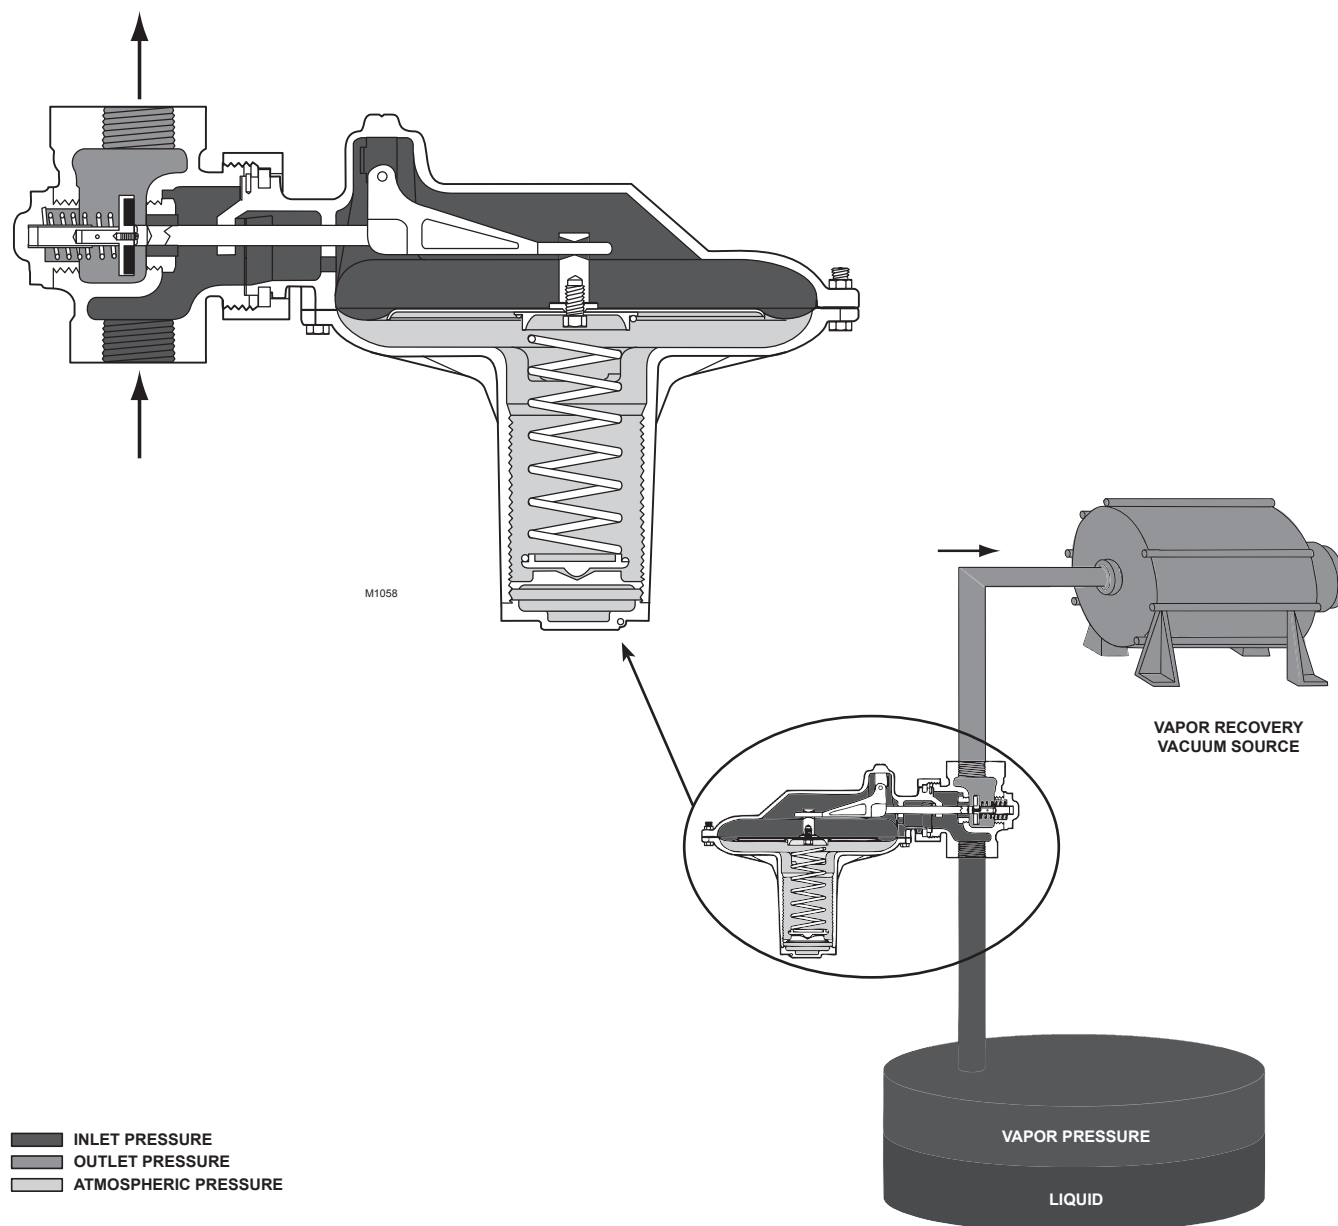
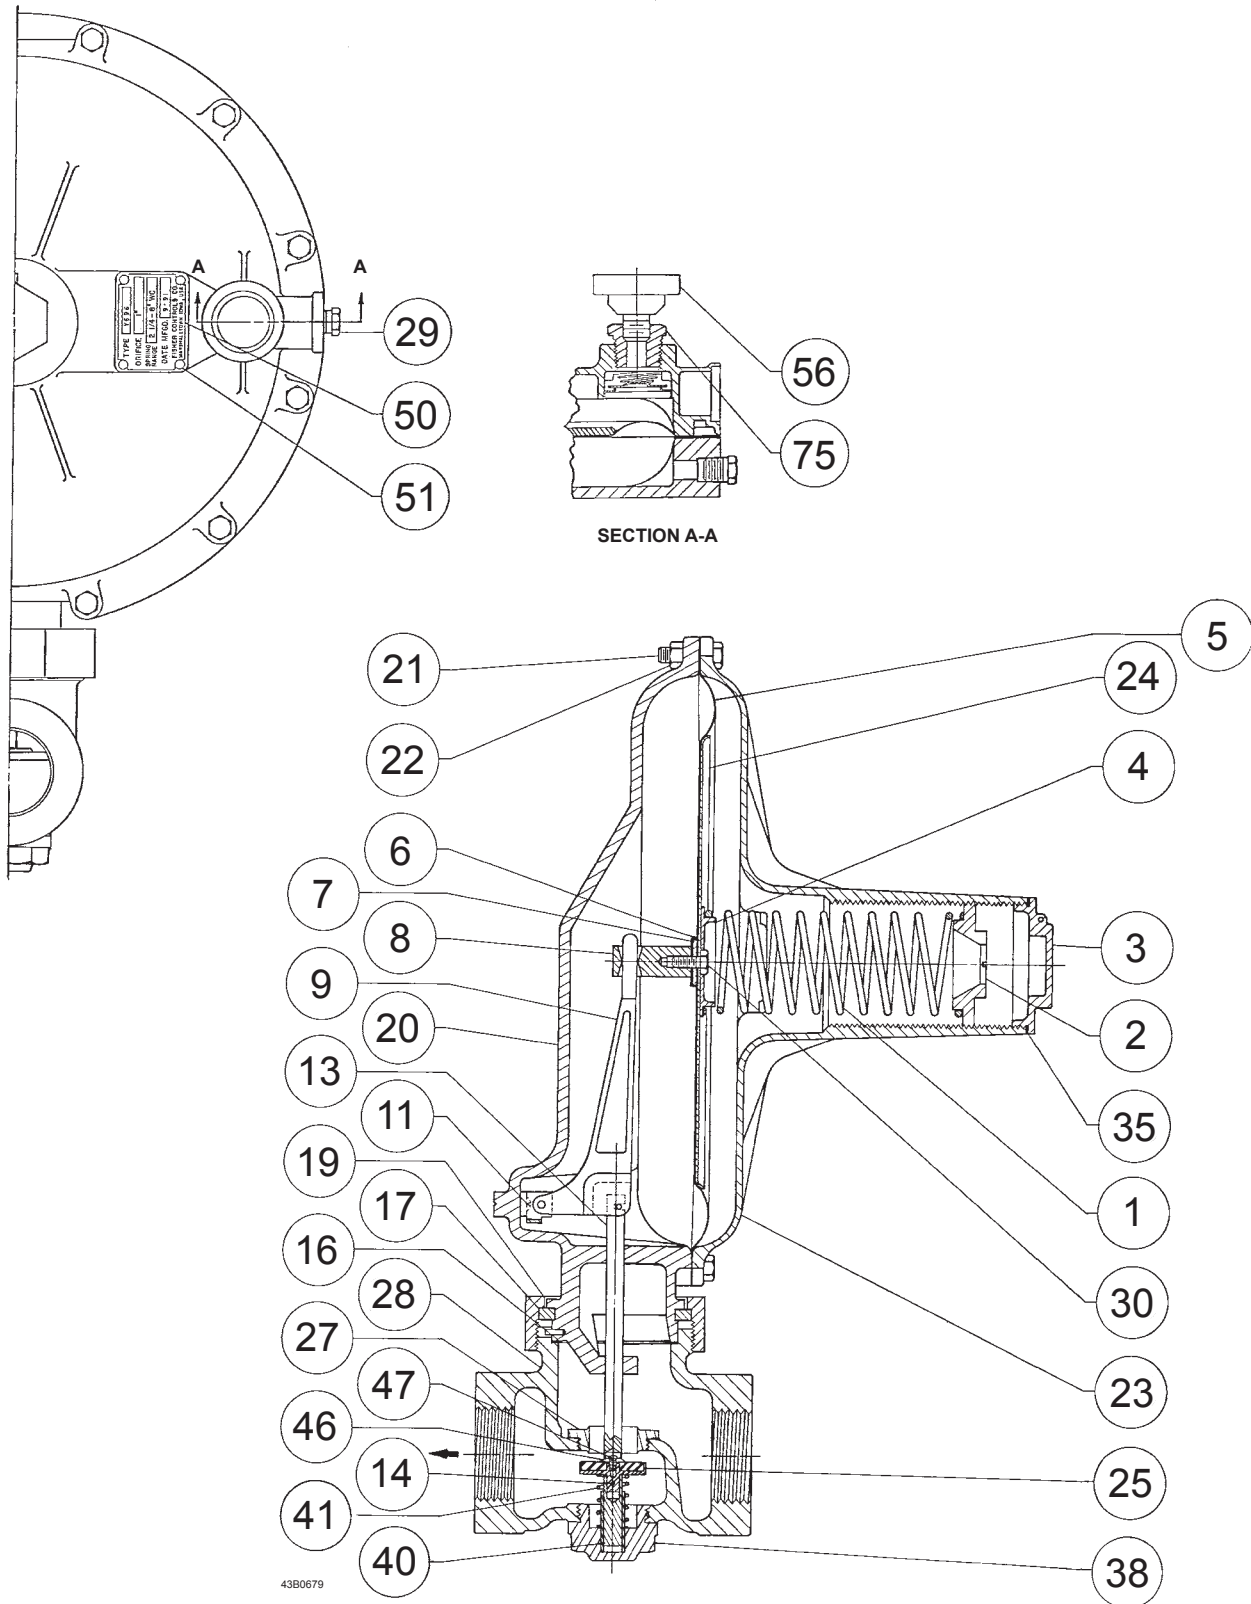

Figure 2. Type Y696 Vapor Recovery Operational Schematic
Figure 3. Type Y696 Assembly
2. Install the regulator using a straight run of pipe the same size or larger as the regulator body (as shown in Figure 2). Flow through the regulator body is indicated by the flow arrow cast on the body. If a block valve is required, install a full flow valve between the regulator and the blanketed vessel. For proper operation, the regulator should be installed with the spring case barrel pointed down. Key numbers referenced in this section are shown in Figure 3.
the spring and diaphragm in the Maintenance section. To adjust the pressure setting, perform the following steps (key numbers are referenced in Figure 3):
Key numbers are referenced in Figure 3.
1. Remove the closing cap (key 3), and the adjusting screw (key 2).
2. Remove the hex nuts (key 22), cap screws (key 21) and spring case (key 23).
3. Lift the upper spring seat (key 44), and control spring (key 1) off the diaphragm and plate assembly (key 5).
4. Remove the diaphragm and plate assembly (key 5) by tilting them so that the pusher post (key 8) slips off the lever assembly (key 9).
5. To separate the diaphragm assembly (key 5) from the attached parts, unscrew the cap screw (key 30) from the pusher post (key 8).
6. To replace the lever assembly (key 9), remove the machine screws (key 11). To replace the stem (key 13) pull the stem (key 13) out of the lower casing assembly (key 20).
7. Install the stem (key 13) into the lower casing assembly (key 20).
8. Install the lever assembly (key 9) into the stem (key 13) and secure the lever assembly (key 9) with the machine screws (key 11).
9. During the assembly procedure, use lubricants on parts as indicated in Figure 3 and replace parts as required.
Type Y696 Regulator (Figure 3)